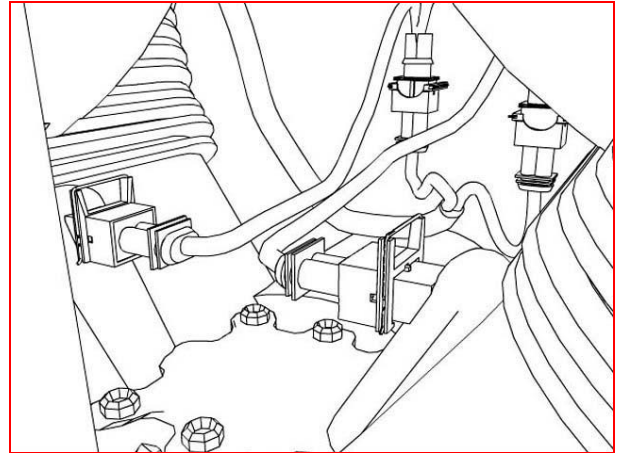

Figure 13
14. Feed TFI injector connectors under throttle body and connect them to their respective injectors. (fig 13)